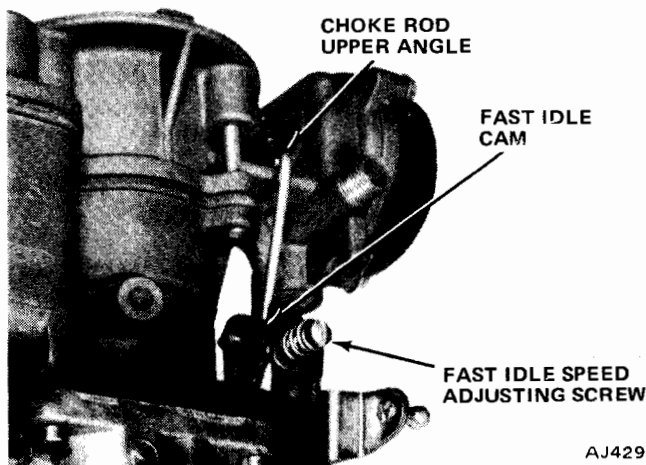

Fig. 4-30 Fast Idle Cam Linkage Adjustment
(1) Position fast idle screw on second step of fast idle cam against shoulder of high step (fig. 4-30).
(2) Adjust by bending choke plate connecting rod to obtain specified clearance between lower edge of choke plate and air horn wall. (Refer to Carburetor Service Specifications for proper clearance.)